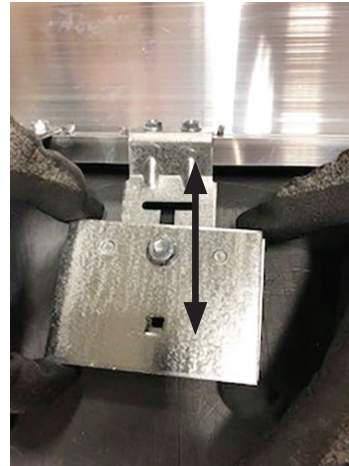

Figure 3B: Weight stack slid outward on counterbalance bracket
- Slide the weight stack outward from the damper blade in $\frac{1}{4}$ in. (6 mm) increments and tighten the $\frac{7}{16}$ in. (11 mm) nut securing the weight stack to the counter balance bracket (see Figure 3B).